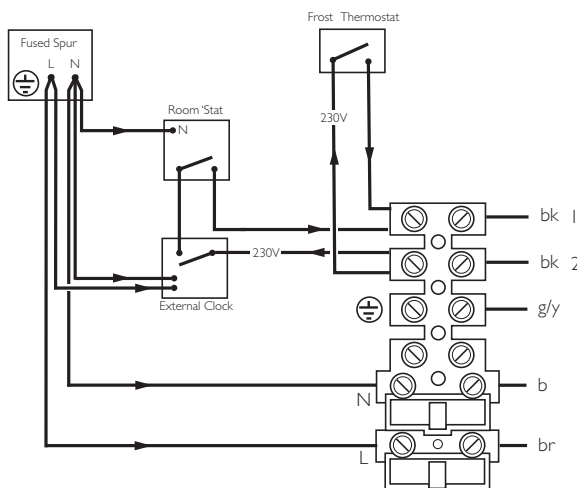

Fig. 33
**NOTE:** An external frost thermostat cannot be used in conjunction with the integral timer. The integral timer can be replaced with the blanking plate supplied in the installation kit, and wiring connected as in Fig. 33.